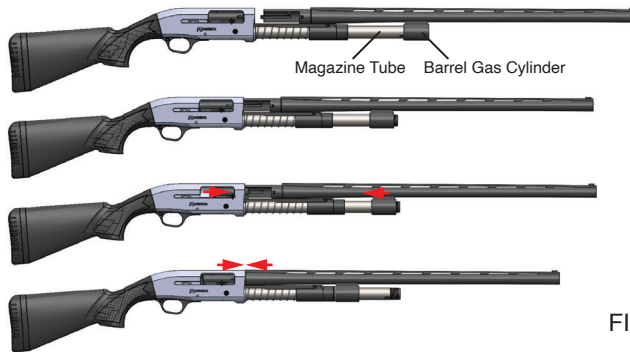

FIG.UA3
- 3- Align the Barrel to the Receiver as shown in FIG.UA3 and slide the Barrel Gas Cylinder over the Magazine Tube.
- 4- When the Barrel Extension reaches the gap between the Receiver and the Bolt Assembly, push the Bolt Assembly forward (towards the Barrel Assembly) with your thumb while pulling the Barrel Assembly rearward (towards the Receiver) until the Barrel Extension is fully seated inside the Receiver. Check FIG.UA3 for reference.